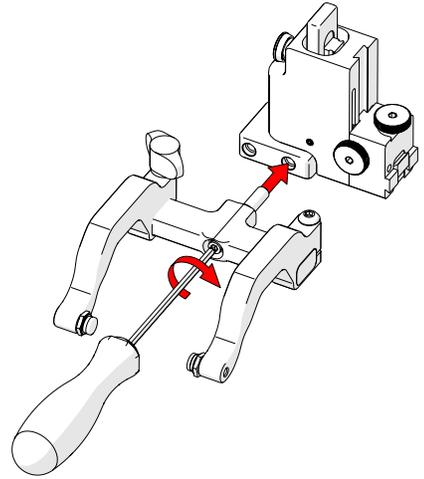

Fig. 120 - Screw into threaded hole
7. Screw the yoke to the probe holder (Fig. 120).